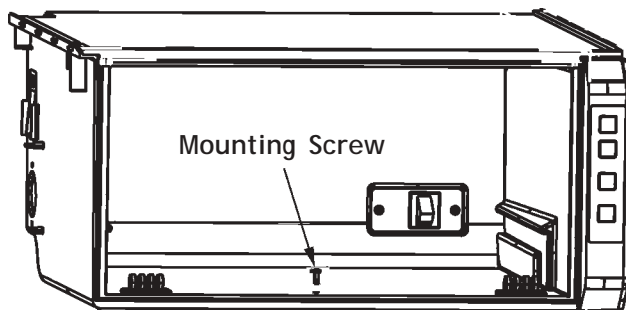

Figure 2-14
3. Remove the lower inner enclosure mounting screw shown in Figure 2-14.